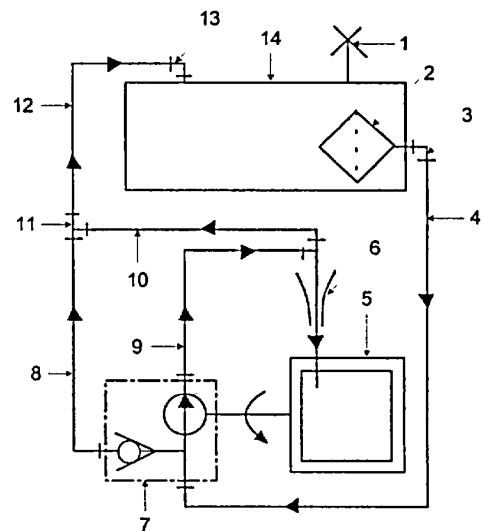

Figure 3-16. Diagram of Fuel Lines
a. The following instructions cover all fuel lines. Only those found to be defective need to be removed and replaced Refer to Figure 3-16.
a. The fuel lines and their type and service are shown in Figure 3-16. All non-pressure lines are made of rubber hose suitable for use with diesel fuel oil. Connections to the tank are made by banjo elbows. The ring pieces serve as hose barbs. All hose end connections are made fast with hose clamps. Replacement hoses may be cut to proper length from bulk material of like kind (reference Appendix F).